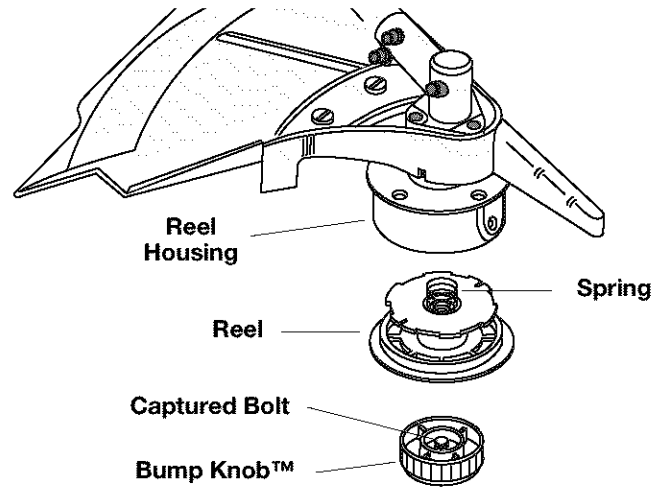

Fig. 29
1. Hold the reel housing with one hand and unscrew the Bump Knob™ clockwise (Fig. 29). Inspect the captured bolt inside the Bump Knob to make sure it moves freely. Replace the Bump Knob if it is damaged.
2. Remove the inner reel and spring (Fig. 29).
3. Hold the reel in place and screw the Bump Knob™ counterclockwise back onto the reel (see Fig. 29).
1. Hold the reel housing with one hand and unscrew the Bump Knob clockwise (Fig. 29). Inspect the bolt inside the Bump Knob to make sure it moves freely. Replace the Bump Knob if damaged.
2. Remove the old reel from the reel housing (Fig. 29).
3. Remove the spring from the old reel (Fig. 29).